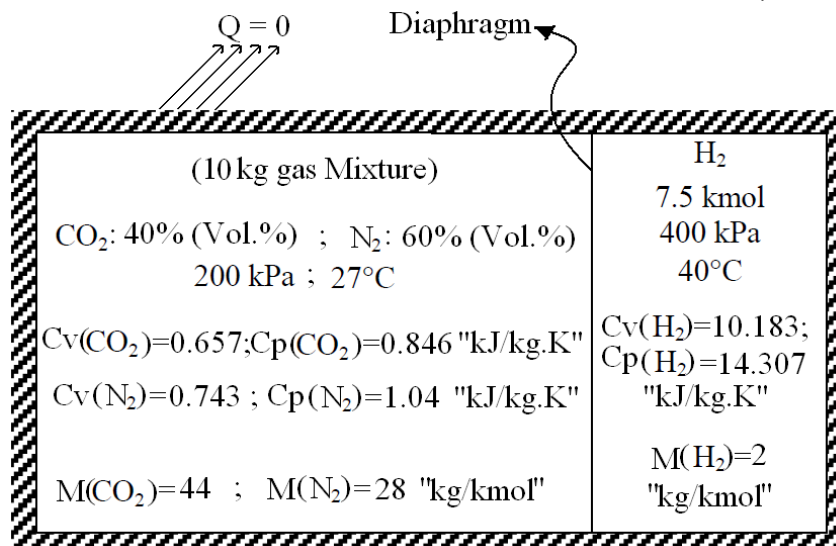

Figure 1[b]
- [b] Consider the ideal gases in insulated rigid vessel with their specifications shown in Figure 1(b). The separating diaphragm was removed allowing gases to mix and reach steady state. Calculate: